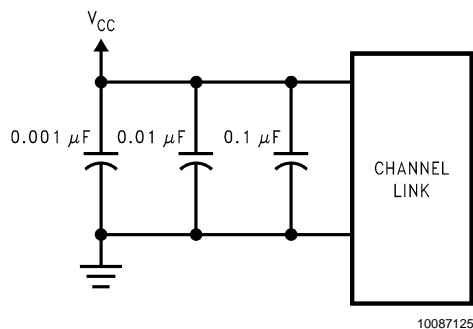

FIGURE 11. CHANNEL LINK Decoupling Configuration
**DECOUPLING CAPACITORS:** Bypassing capacitors are needed to reduce the impact of switching noise which could limit performance. For a conservative approach three parallel-connected decoupling capacitors (Multi-Layered Ceramic type in surface mount form factor) between each  $V_{CC}$  and the ground plane(s) are recommended. The three capacitor values are 0.1  $\mu\text{F}$ , 0.01  $\mu\text{F}$  and 0.001  $\mu\text{F}$ . An example is shown in *Figure 11*. The designer should employ wide traces for power and ground and ensure each capacitor has its own via to the ground plane. If board space is limiting the number of bypass capacitors, the PLL  $V_{CC}$  should receive the most filtering/bypassing. Next would be the LVDS  $V_{CC}$  pins and finally the logic  $V_{CC}$  pins.